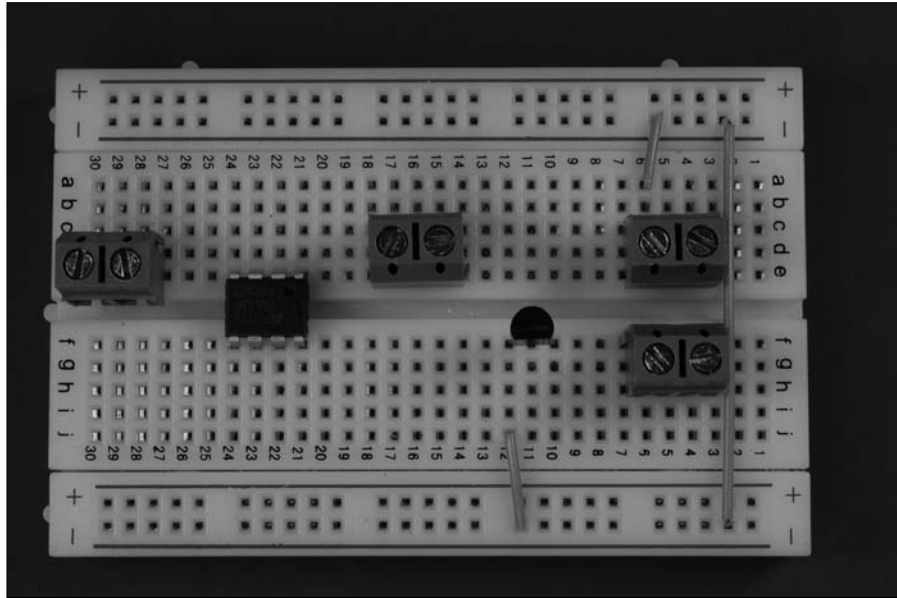

Figure 12-6:
2. Insert wires to connect the battery terminal block and the transistor emitter pin to the ground bus. Then insert a wire between the two ground buses to connect them, as shown in Figure 12-6.